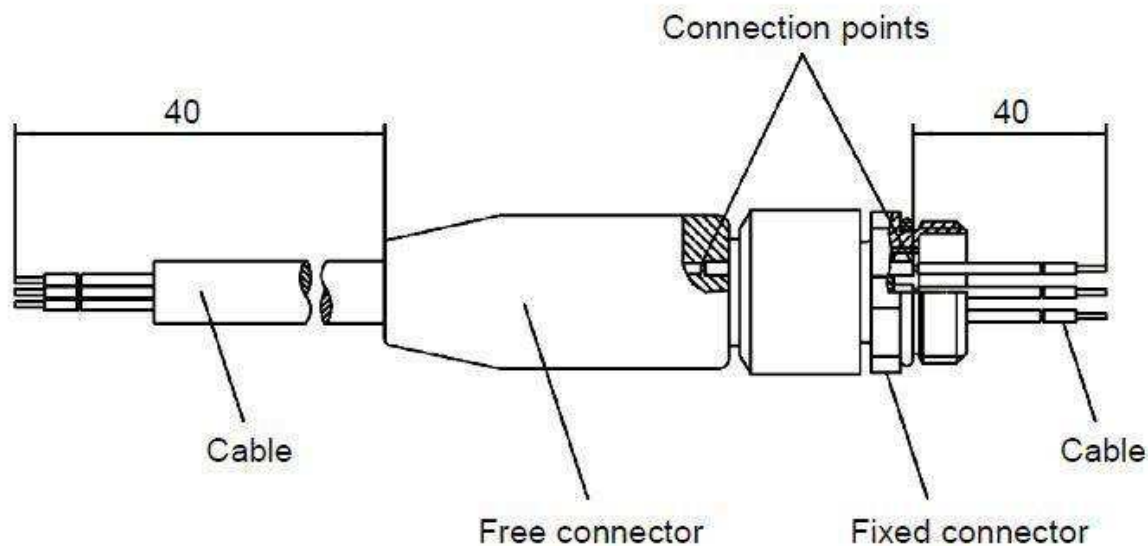

Figure 3- Contact resistance arrangement
- A. Electrical transmission tests are applicable for connector for symmetrical pair cabling. The measurements shall be performed according to the contact and pair designation in figure 3.